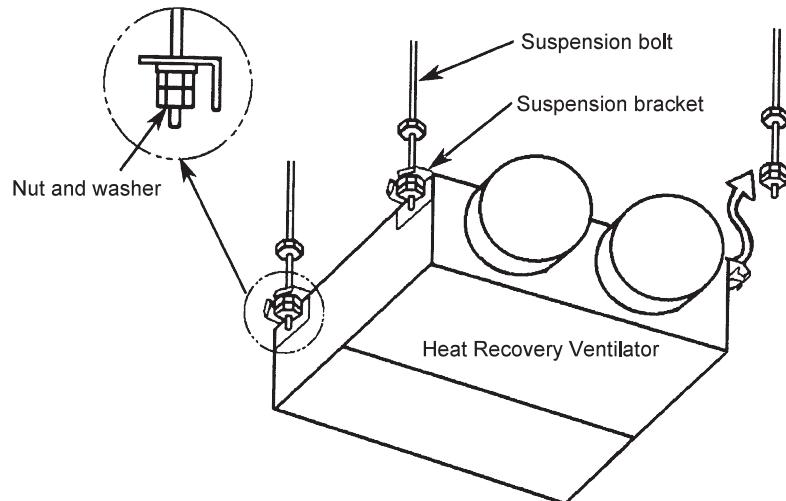

Fig. 3.5 Suspension Method
*Hang the suspension bracket onto the nut and washer of every suspension bolt. As shown in Fig. 3.5, start from the left.